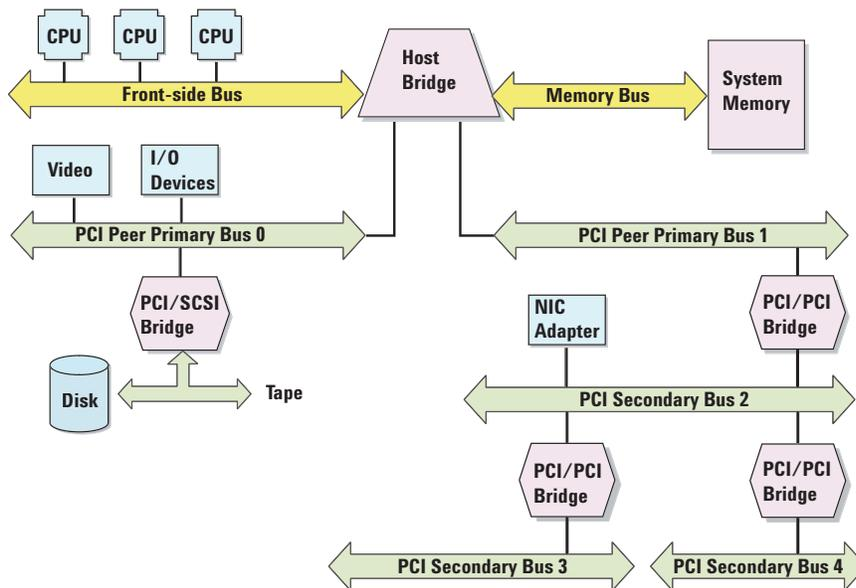

Figure 1. The complexity of modern system structure highlights the problems involved in validation of these systems.
A look at modern system structure highlights the problems involved in validation of these systems. Modern servers and workstations comprise various I/O systems, which connect the different peripherals (storage, network, graphics) and low-speed devices (keyboard, serial communications) to the system (figure 1). Among these I/O systems, the PCI bus and its designated successor, the PCI-X bus, have established a central role. Their performance, configurability, and scalability make them the choice for all types of peripherals. The ability for bus agents to actively initiate transactions allows intelligent processing to move to the subsystems and relieves the CPUs in the system. For both slot-based and on-board applications, PCI/PCI-X buses play the role of a backbone in the system. Connected to these “backbones” are several other I/O systems, such as SCSI buses. These are connected to the PCI/PCI-X system through bridge devices. PCI/PCI-X systems are emphasized here, but the results are also valid for other systems, including technologies such as InfiniBand.
Increasing bandwidth needs call for parallel-processing approaches, so servers and workstations contain several CPUs, numerous storage devices, and several network interface cards. To accommodate these components, multiple I/O buses are built into the system; they are organized hierarchically and/or using peer architecture. The sample system shown in figure 1 contains two PCI-X peer buses (0 and 1) and one subsequent PCI bus (2). The combined architecture using both PCI and PCI-X buses is typical, accommodating both state-of-the-art and legacy devices.